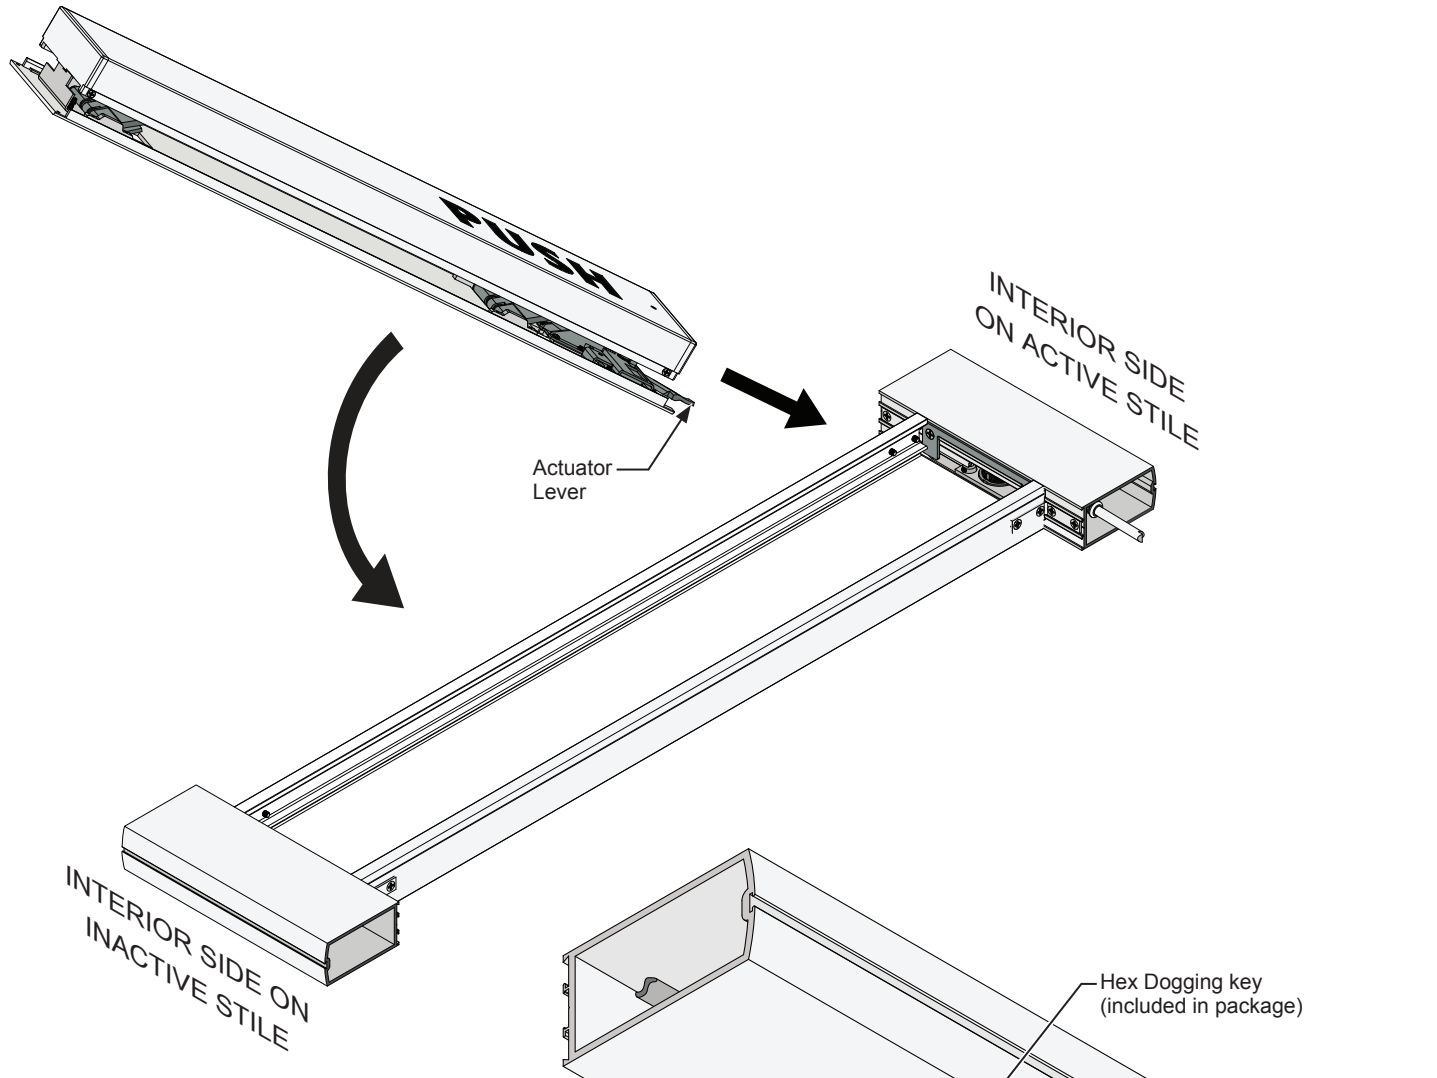

FIG. 17
1. Un-dog the push bar. Slide the push bar into the infill cut-out on the active door stile until the tab portion is fully secured against the active stile. (Fig. 17)